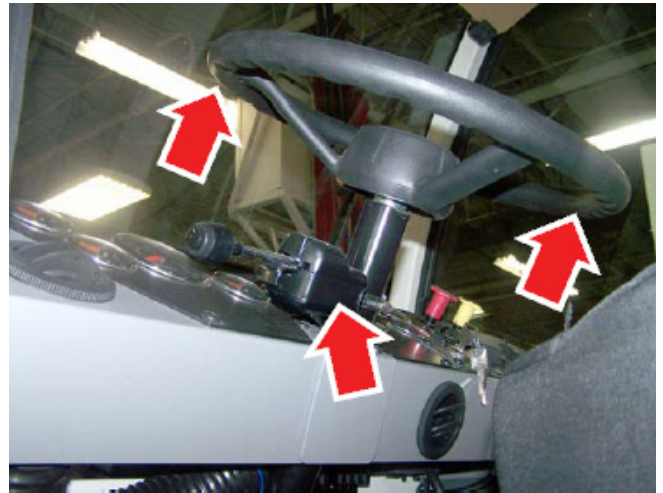

Figure 9
11. Disconnect the horn wire from the horn button by grasping and gently pulling the connector toward yourself, and set the horn button aside for reinstallation (See Figure 9).
12. Remove the steering wheel retaining nut and discard (See Figure 9).
13. Using a steering wheel puller with M6 x 3 3/4" bolts, remove the steering wheel and set aside for reinstallation (See Figure 9).
14. Remove the turn signal switch and set aside for reinstallation (See Figure 9).